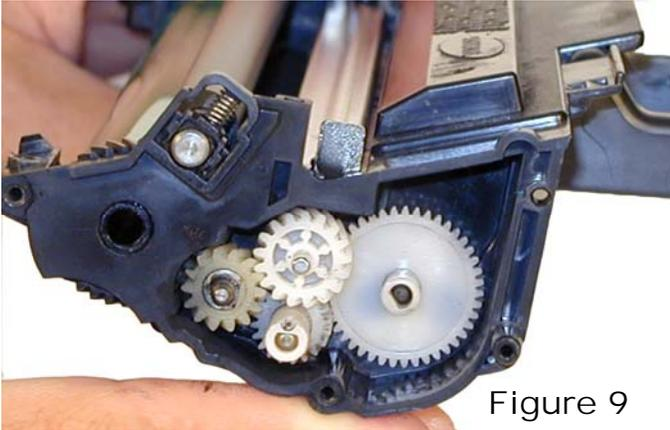

Figure 9
9) Remove the 4 gears, and place aside. See **Figure 9**